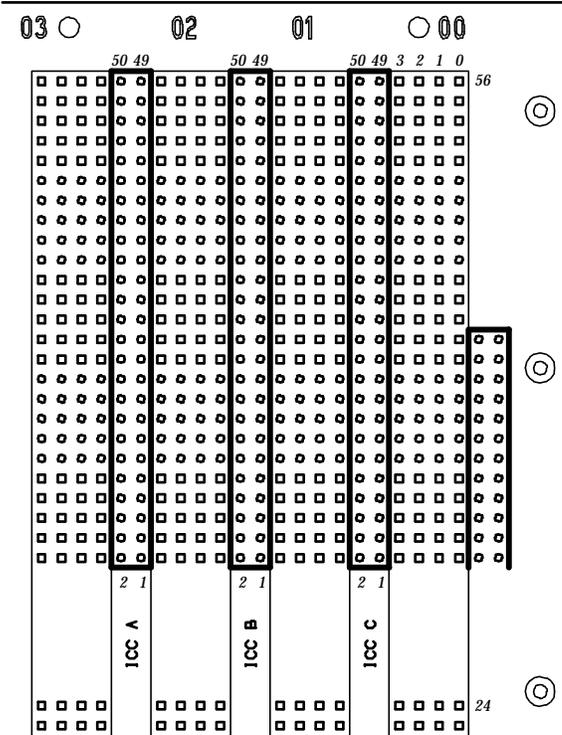

FIGURE 3-17. ICC Pin Block Location on J58890L
2. See Note. Connect ICC cables as shown in Table 3-C and Figures 3-17 and 3-18.